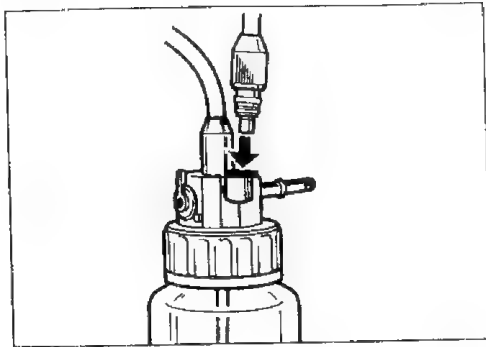

Fig. 11
5. Insert the Air/Water connector into the holder on the water bottle cap assembly until the endoscope is connected (Fig. 11).